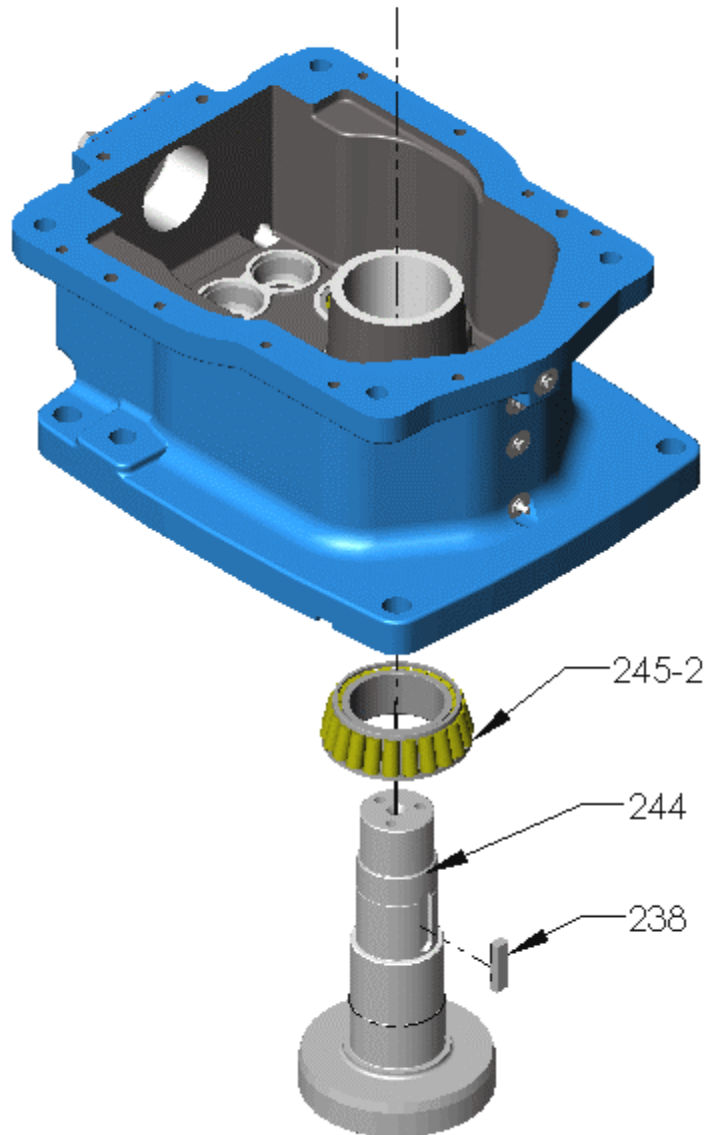

Figure 16 –Output shaft
- C. Output shaft assembly (refer Figure 16).
- D. Lift the bottom case and align with output shaft assembly [244] (refer Figure 16).
- E. Carefully lower bottom case until bearing [245-2] is seated (refer Figure 16).